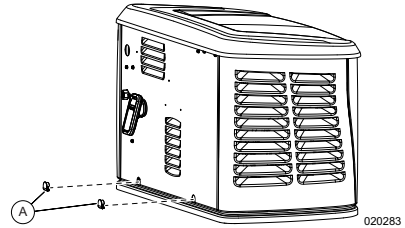

Figure 4-2. Installing Back Panel Plugs
3. See Figure 4-2. Install back panel plugs (A) into generator back panel.